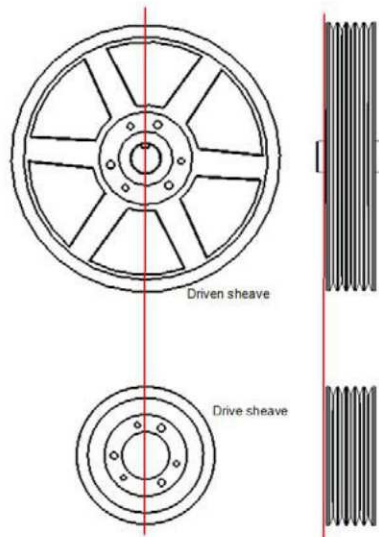

Figure 11: Sheave alignment
- Verify alignment with long level. (~3 feet long) Sheaves must be aligned in all three dimensions. Refer to **Figure 11** below.